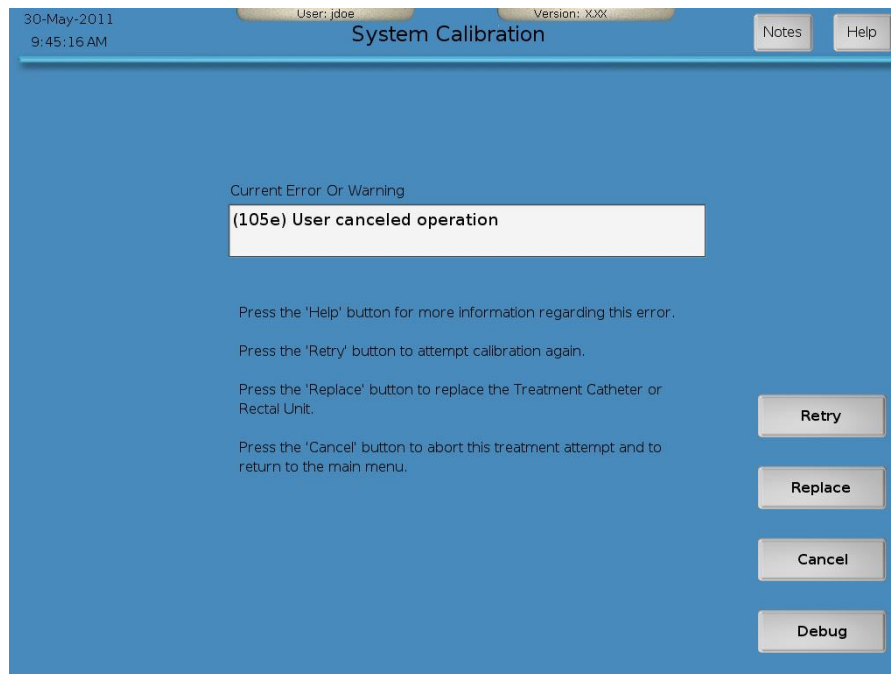

Figure 3-25. System Calibration Screen - Error Message
2. Read the System Calibration screen (Figure 3-25), and use the error message to resolve the problem. In addition, use one of the actions listed on the System Calibration screen to help you determine what to do next.